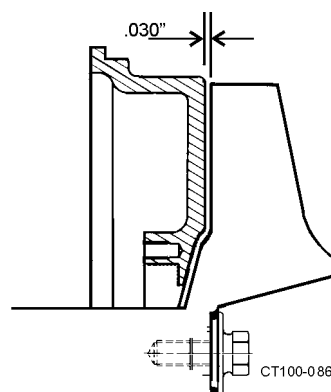

Figure 19 - Place Shims Between Impeller and Backplate
- Lubricate and slide the seal O-ring onto the impeller shaft. (Use the spring retainer as a tool to push the O-ring into the rotary seal). (Figure 19).
6. Temporarily put 0.03" shims between the impeller vane and back plate to preset clearance. **Be sure to remove shims before final assembly.** (Figure 19)